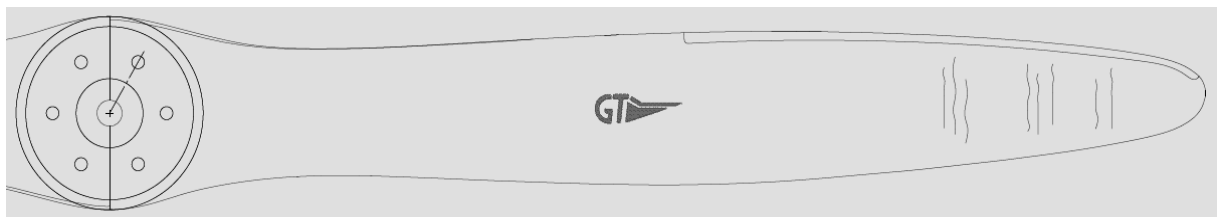

FIG 6-3 TRANSVERSAL CRACKS AT THE BLADE'S TIP
6. Transversal cracks are due to torque vibrations and are normally caused by external lacquer layer drying. This phenomena is not caused by structural causes but it's advisable to contact the Factory, especially in case of deep cracks, (See Fig 6-3).